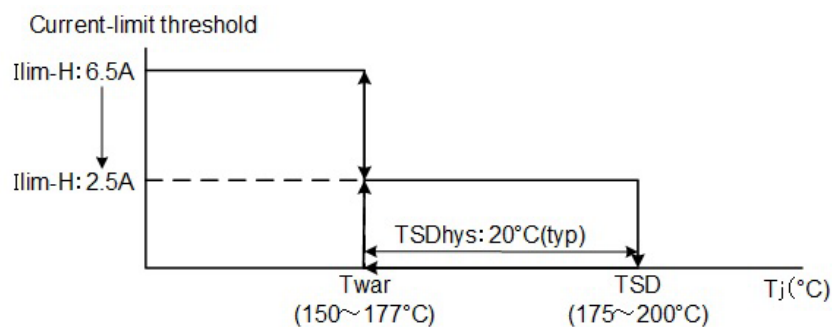

Figure 7.17 Temperature-adjusted current-limit control
7.7.6. Temperature-adjusted current-limit control (Figure 7.17)